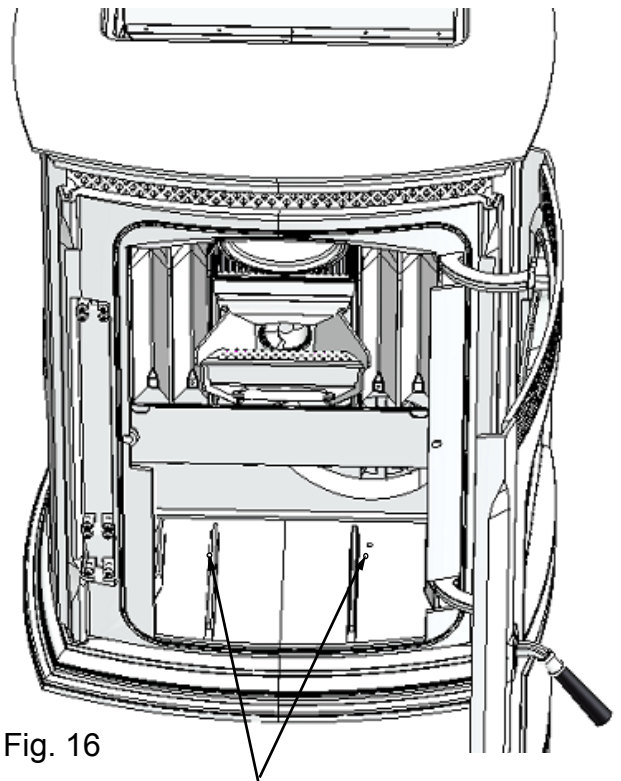

Fig. 16
1. The unit must be bolted to the floor. This can be done with 1/4" lag screws through the 2 holes in the base plate shown in Fig. 16
**Canadian Standard ULC S627 requires that all outdoor-aired space heaters must be attached to the structure. See page 12, Fig 16.**